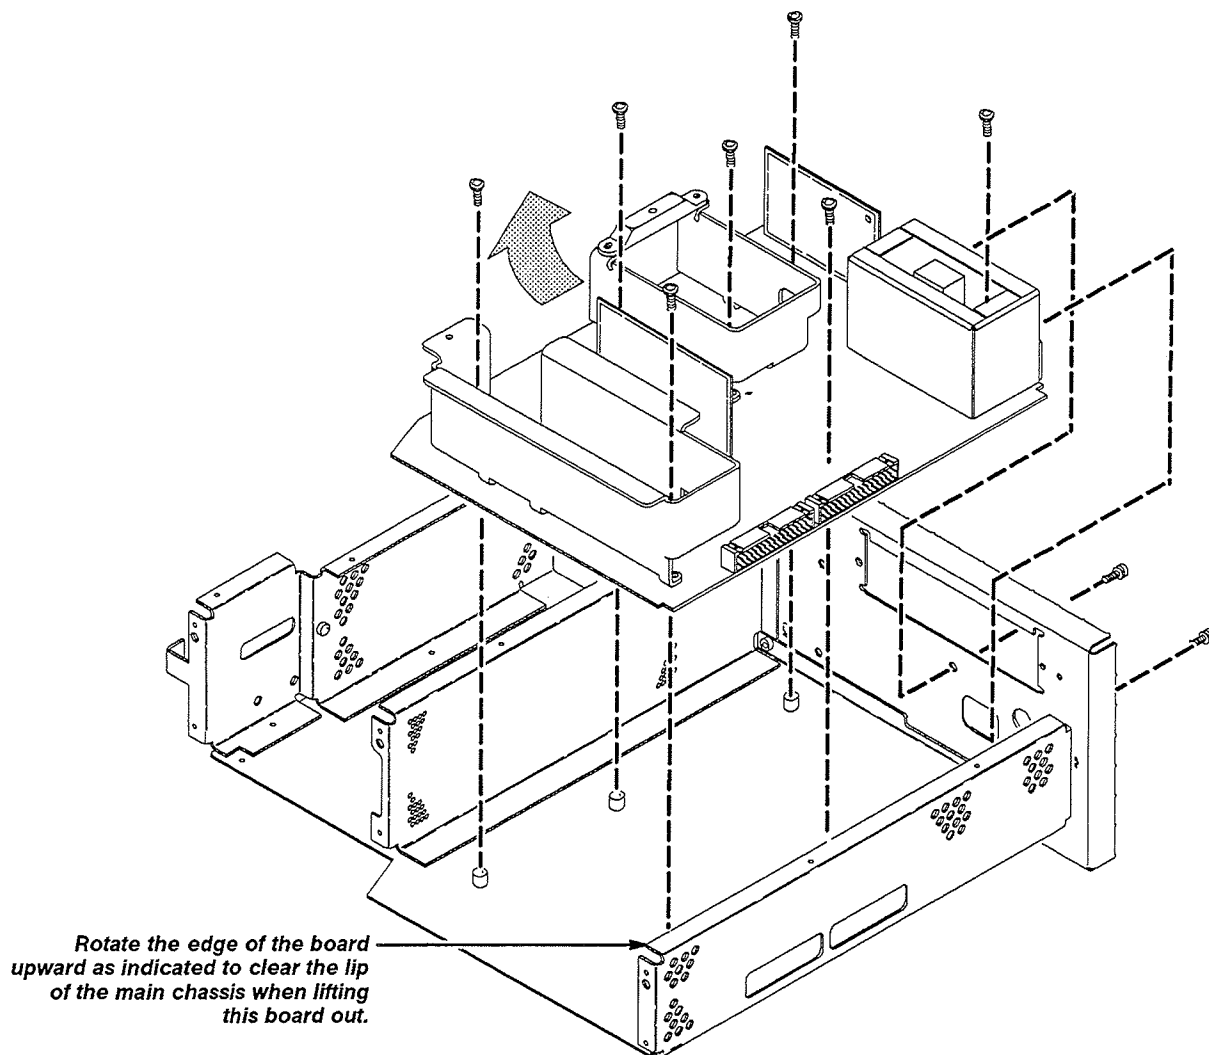

Figure 6-17: A16 Low Voltage Power Supply Removal
- a. Working from the rear of the oscilloscope, remove the two screws securing the low-voltage power supply to the rear chassis. See Figure 6-17.
- b. Now, working from the top of the oscilloscope, remove the seven screws, indicated in Figure 6-17, that mount the supply to the main chassis.